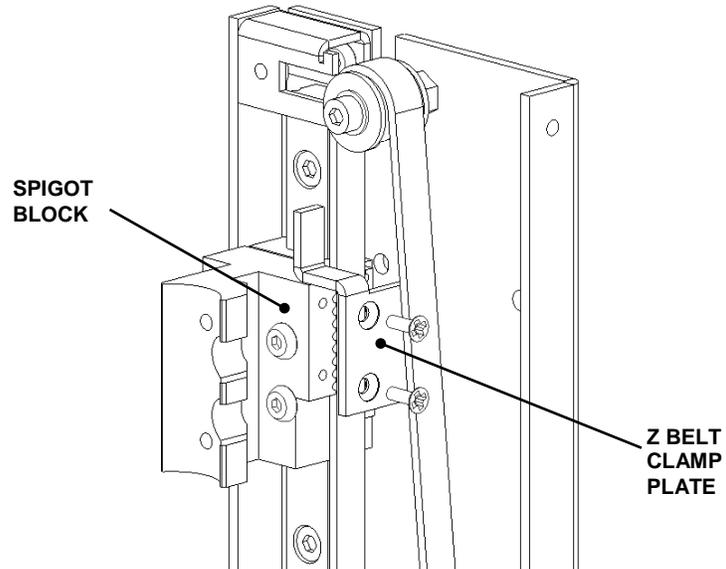

Figure 7-30: Z-Belt Clamp Plate
1. Unscrew the two screws for the Z belt clamp plate (Figure 7-30).